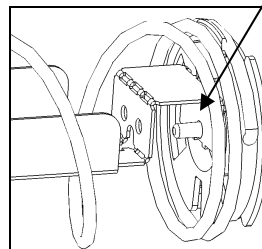

Figure 6
6. Push adapter hole over hub protrusion as shown (See Fig. 6)